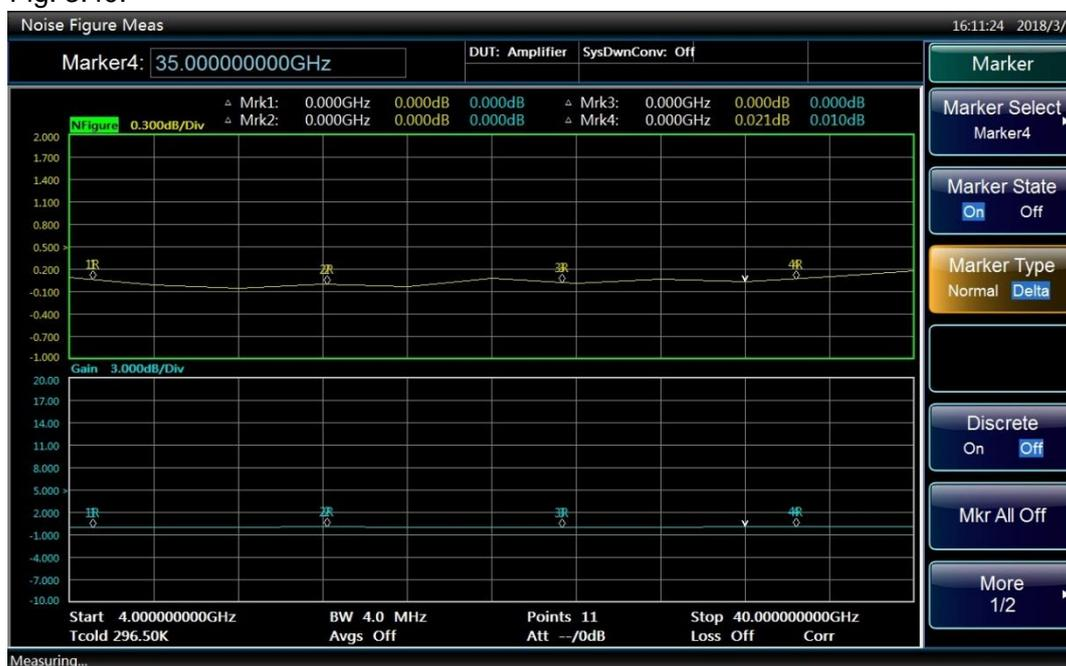

Fig. 3.40 Four delta markers
**Step 5.** Press the [Marker type] menu key to set it to [Marker Type Normal **Delta**] mode, as shown in Fig. 3.40.